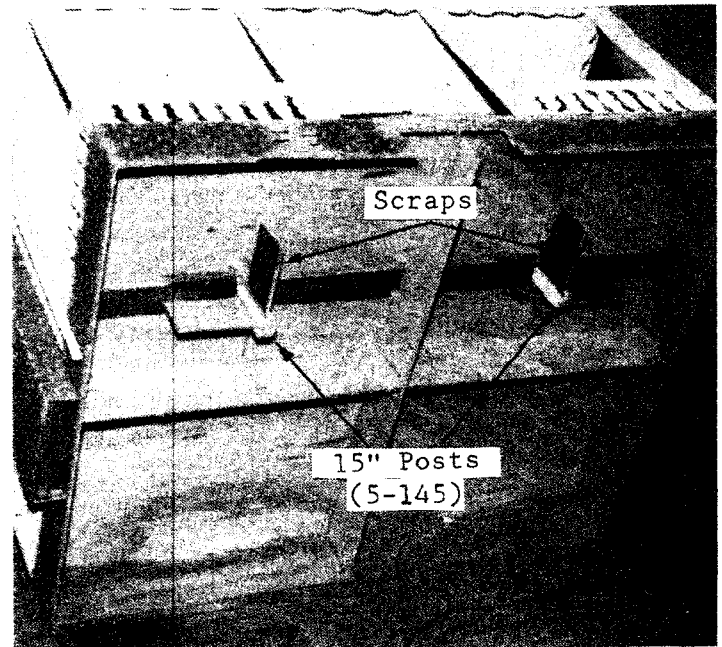

Figure 18
3. Glue scrap pieces from the inside of the window frames into the grooves of the large corner posts under the base floor. This will help strengthen the house by not letting the walls pull up. Figure 18.